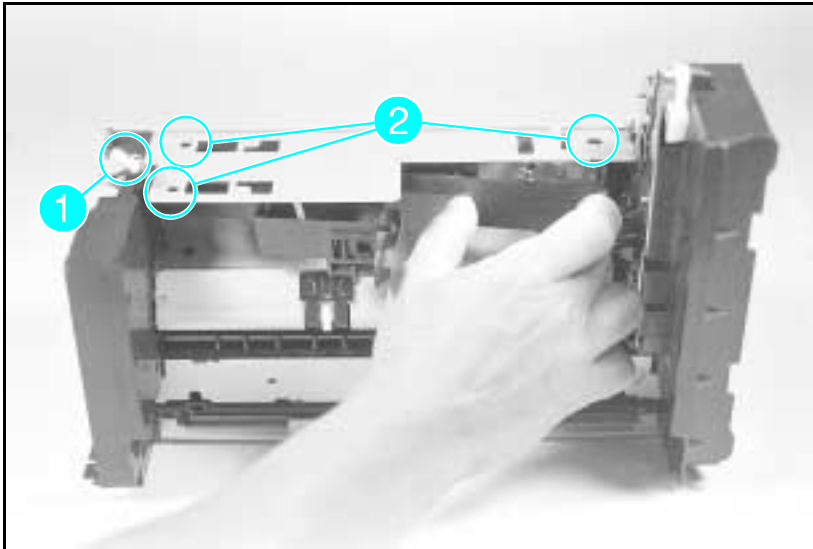

Figure 6-51 Removing the PS1/PS2 Sensor Assembly
- 5 Flex the right side of the Sensor Assembly to clear the locator pin and the sensor arm from the sheet metal (see Figure 6-51 callout 2).
- 6 As you flex the right side of the assembly, carefully release the (2) plastic retaining tabs on the left (Figure 6-51 callout 2).